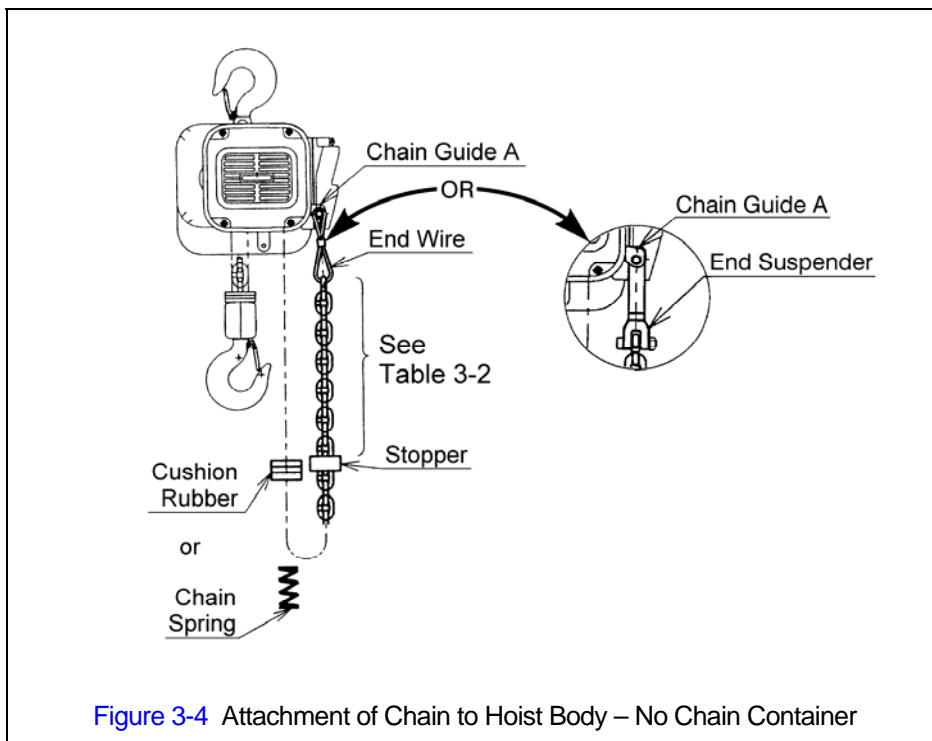

Figure 3-4 Attachment of Chain to Hoist Body – No Chain Container
- 3.2.2 When the hoist is used without a chain container, the free end of the chain is attached to the hoist body as shown in Figure 3-4. Connect the no load end of the chain to Chain Guide A with the End Wire or End Suspender provided. For 5 ton hoist, connect the no load end of the chain directly to Chain Guide A if Chain Guide A is notched to accept the chain. Make sure the chain remains free of twists and the chain Stopper is installed on the correct link. Refer to Table 3-2 for proper placement of Stopper.